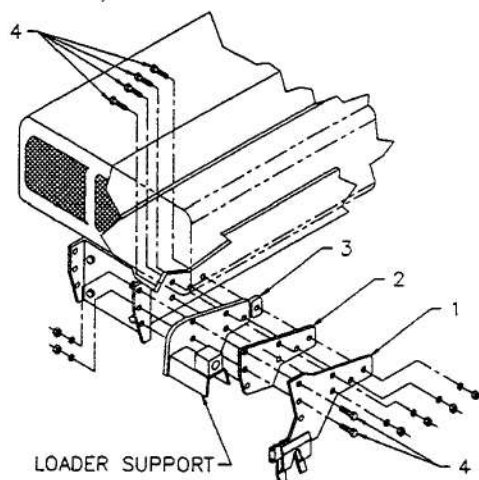

FIGURE 10
Install left hand attaching plate (fig.10, item 1) with shim 3/8" thick (fig.10, item 2) that has the same shape as the attaching plate and small shim 1/2" thick (fig.10, item 3), using six bolts M14 x 60 mm (fig.10, item 4) with lockwashers and nuts. Do not tighten yet.